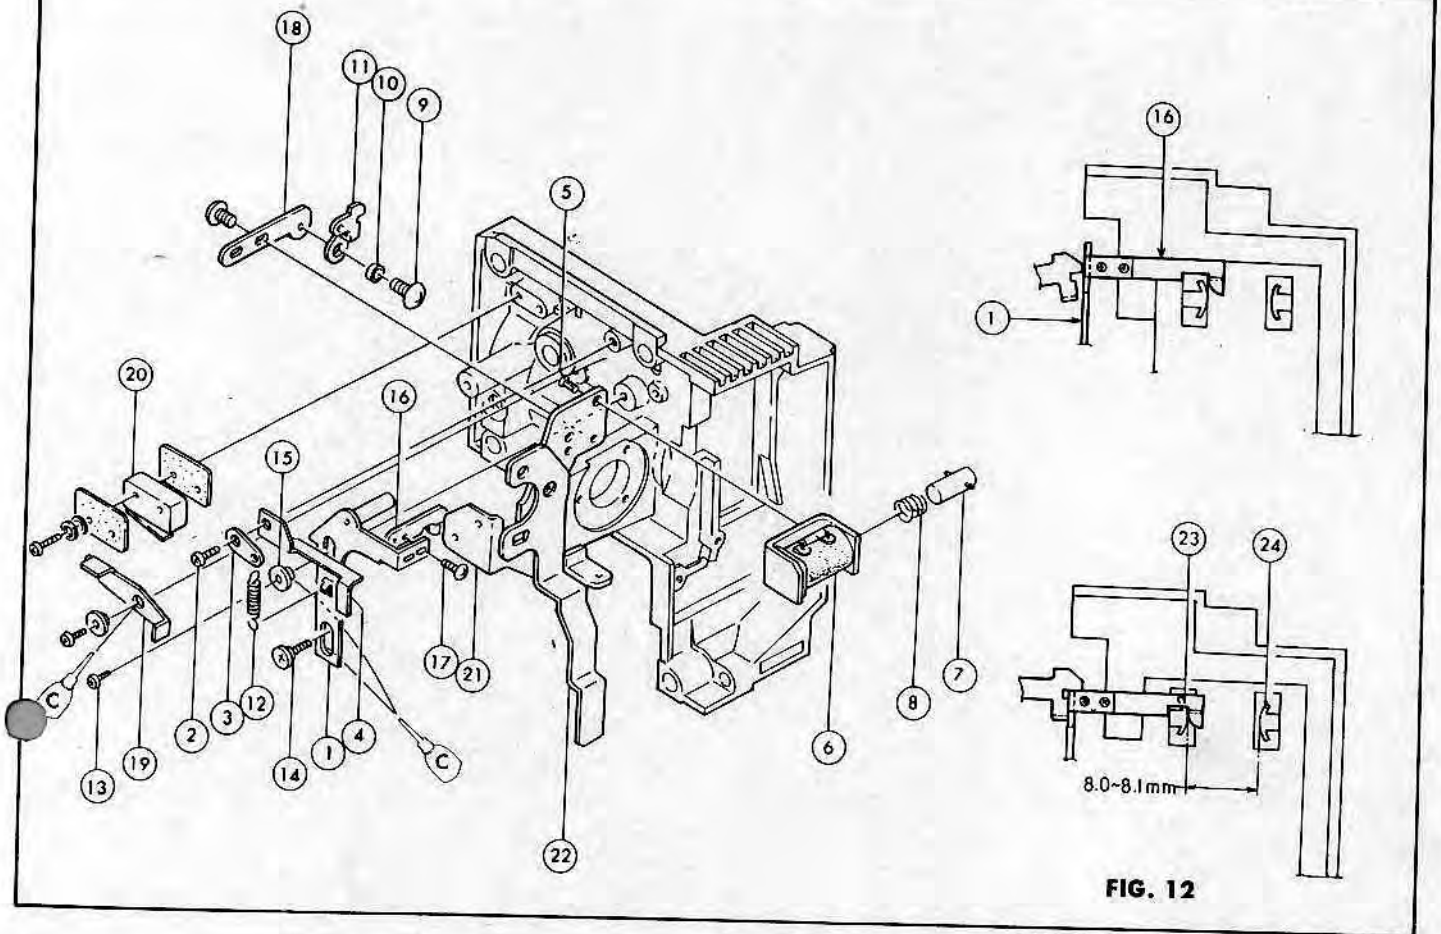

FIG. 12
TROUBLESHOOTING: (Refer to Fig. 12)
1. Take off the (3)(4) after unscrewing the (2). Note that the (12) may fly off.
2. Take off the (6) after unscrewing the (5)x2. The (7)(8) will fall off.
3. Take off the (11) after unscrewing the (9). The (10) will fall off.
4. Take off the (1) after unscrewing the (13)(14). The (15) will fall off.
5. For further disassembly, refer to Fig. 12. You had better not disassemble the (18)(21)(22) because a frame line gets entirely out of order except unavoidable case.
3. When you push the (23) down for auto-threading, the (16) pushes the (23) down. Under this condition, the space between the (23) and (24) should be within 8 - 8.1mm as shown in Fig. 12. For this adjustment, change the (16)'s position.